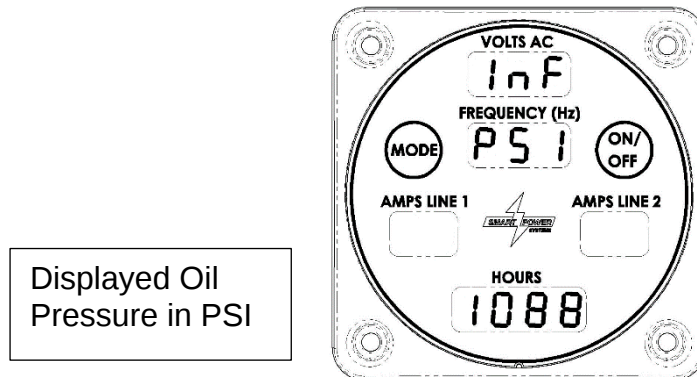

Figure 19 – System Inlet Pressure Display
- b. Inlet pressure to the generator will be displayed next in the hours field by pressing the Mode switch a second time as seen in Figure 19.